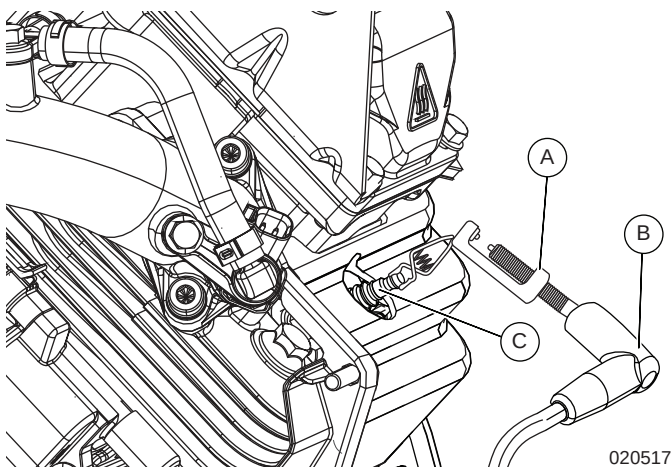

Figure 7-1. Spark Tester on Engine (Typical)
1. See Figure 7-1. Install a spark tester (A) (Generac part number 0C5969) between spark plug lead (B) and each spark plug (C), as shown. Set spark tester to a 10 kV gap. Test each plug separately if only one spark tester is available.